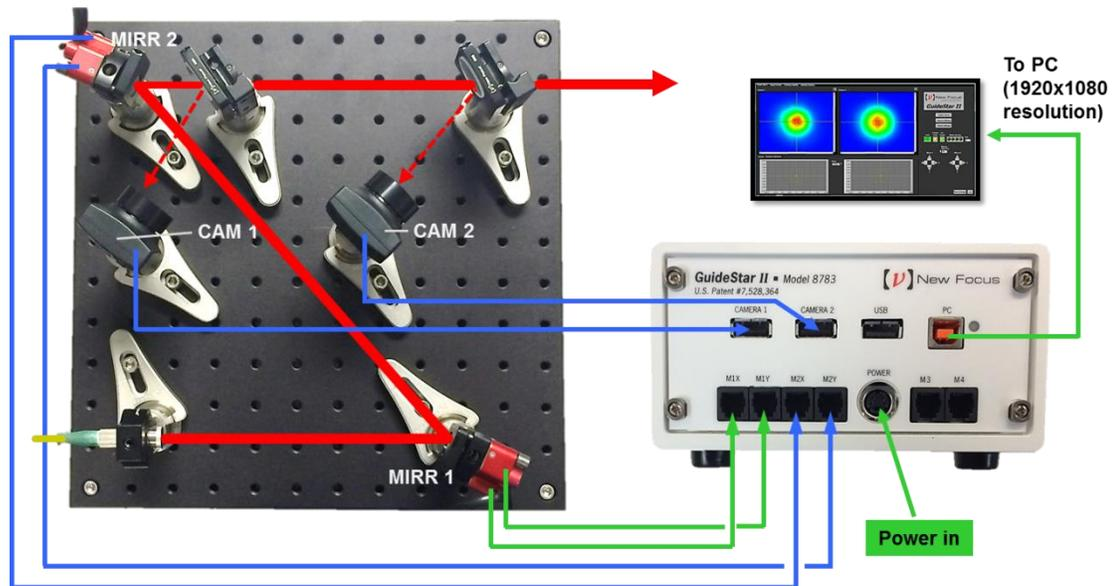

Figure 22. Example physical layout of mirrors and cameras for GuideStar II system.
The best physical layout of the Picomotor Mirror Mounts (MM) and Cameras (CAM) is such that the beam first strikes and is reflected off MM1 then MM2 with a small fraction of the light intensity then picked off for CAM 1 and CAM 2. Please refer to Fig. 22. The best physical layout will also maximize the separation between the two Mirror Mounts and between the two Cameras to give the most control and highest possible resolution. For example, a 60cm minimum distance between the two Mirror Mounts and between the two Cameras will give a resolution of or better than $10 \mu\text{rad}$.